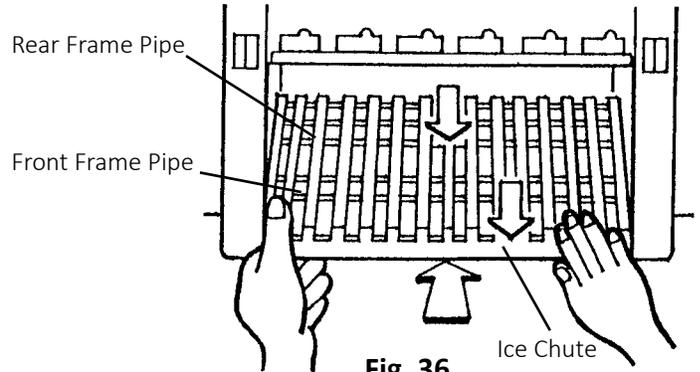

Fig. 36
- Position and lock the ice chute onto the front and rear frame pipes by pushing the ice chute down until it clicks onto both frame pipes. See Fig. 36.